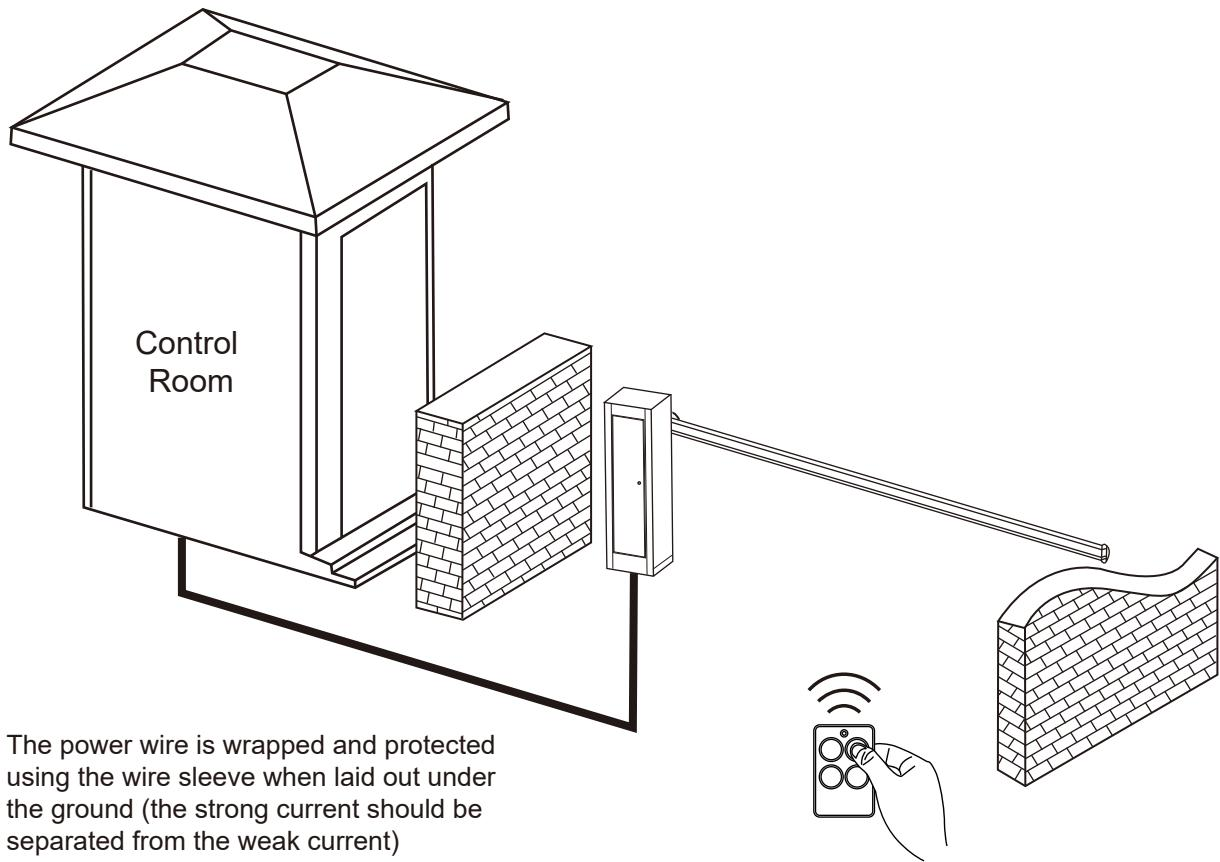

Figure 4
(4) Connection of power cable, press the remote control to test if it is working normally as the figure 4.